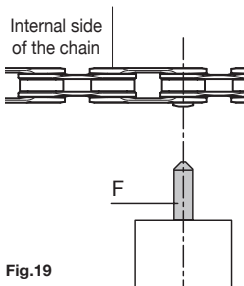

Fig.19
- Check that the tapered tip of the pusher is in line with the centre of the bushing **ULTRA-LINK 5-CN-SR700** (**Fig. 19**).